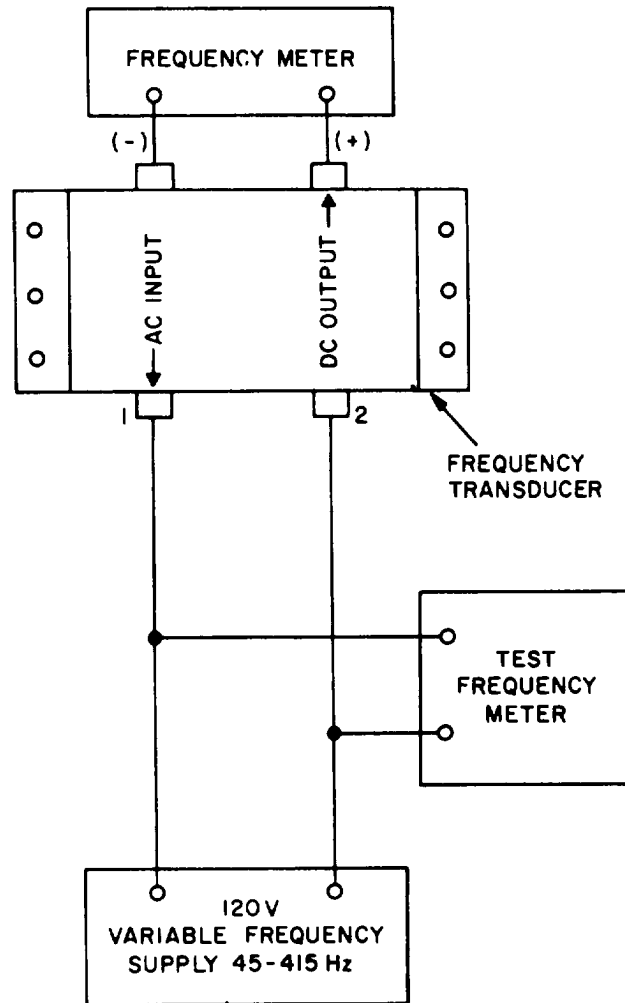

Figure 6-2. Frequency meter (M6) & transducer (A2) test setup
a. Connect a variable frequency 120 VAC frequency generator to the AC side of the frequency transducer as shown in figure 6-2.